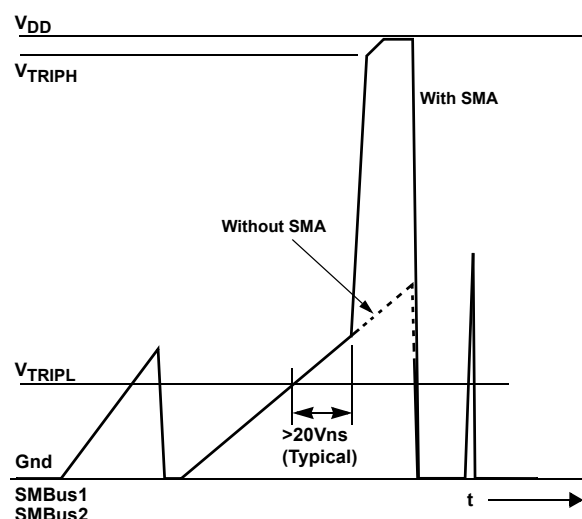

FIGURE 10. NOISE SUPPRESSION. BOOST CURRENT APPLIED WHEN INPUT SIGNAL EXCEEDS 20Vns (TYPICAL)
5. Measured as area under triangular waveform above V_{TRIPL} , with time as base and V_{IN} as height (see Figure 10 on page 7).